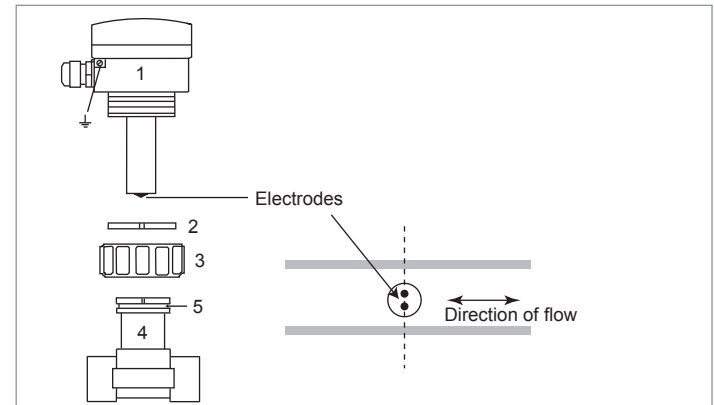

Figure 9: Installation of the instrument in the pipe
- Place the union nut (see item 3 in Figure 9) on the fitting.
- Fasten the ring (item 2 in Figure 9) in the groove (item 5 in Figure 9).
- Insert the instrument (item 1 in Figure 9) in the fitting, positioning the cable bushings parallel to the pipe.
- Tighten the union nut (item 3 in Figure 9) on the transmitter manually.